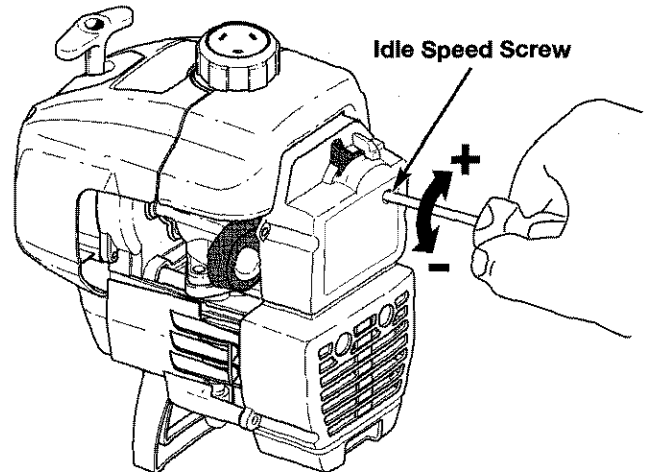

Fig. 40
The idle speed of the engine is adjustable through the Air filter/Muffler cover (Fig. 40).
2. Release the throttle trigger and let the engine idle. If the engine stops, insert a small phillips or flat blade screwdriver into the hole in the air filter/muffler cover (Fig. 40). Turn the idle speed screw in, **clockwise**, 1/8 of a turn at a time (as needed) until the engine idles smoothly.